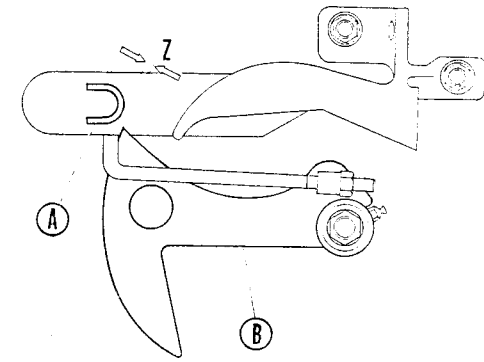

Fig. 28
- 1) The tip of the twine fingers should be within  $1/16''$  (1-2 mm) of the needle to ensure catching the twine as shown in fig. 28. This adjustment is made by moving the pivot bolt (A, fig. 29) along the slot provided.
- Fig. 28 - A - NEEDLE B - TWINE FINGER Z -  $1/16''$  MAX.